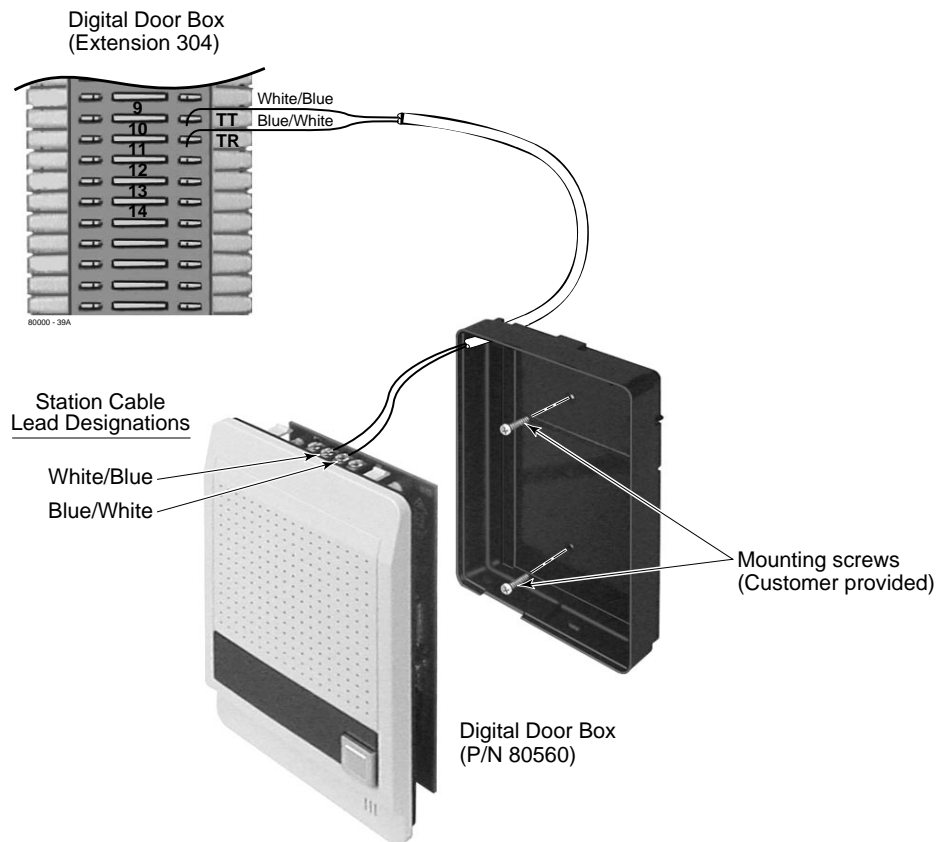

Figure 4-3: Connecting a Digital Door Box
To install the Digital Door Box (Figure 4-3):
2. Punch down one end of a two-pair twisted station cable on the extension block as shown in Figure 4-3 *Connecting a Digital Door Box* on page 4-5.